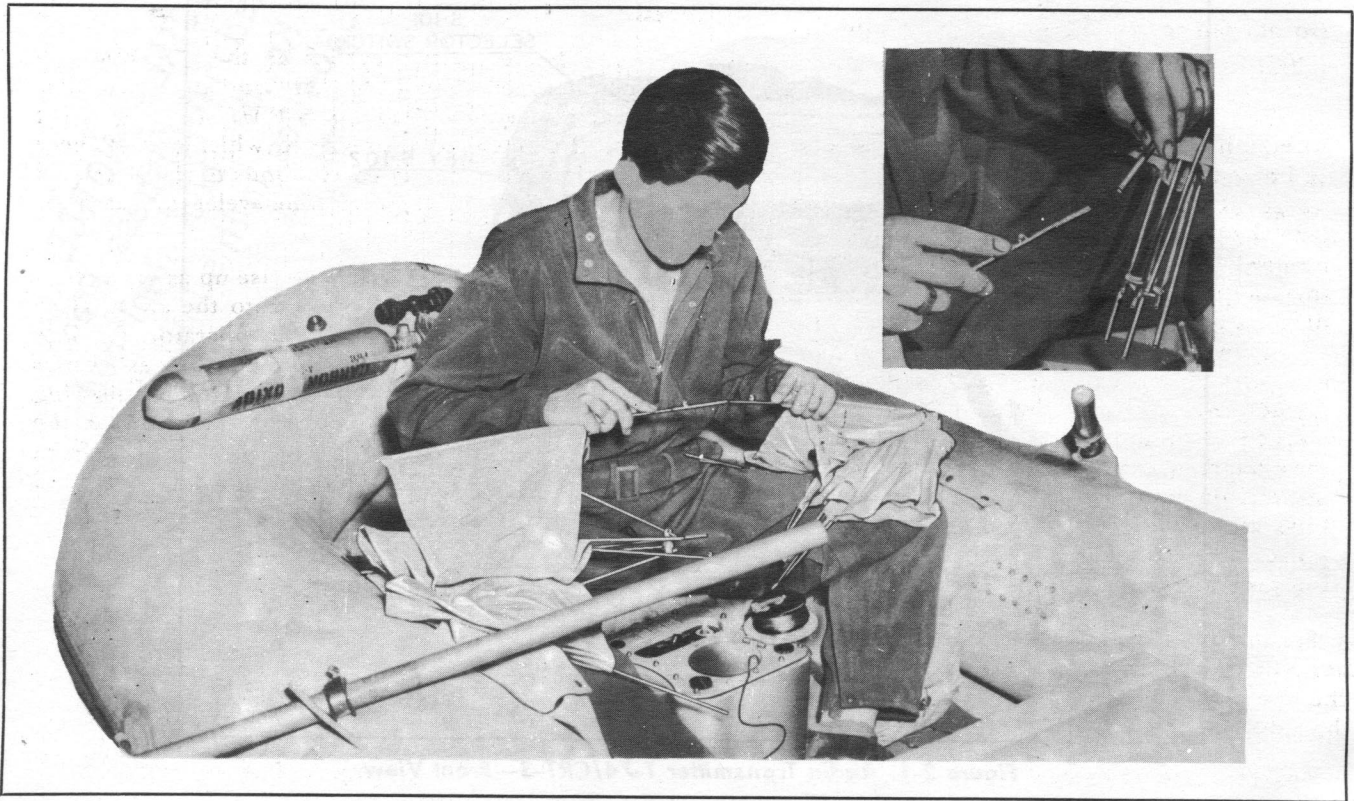

Figure 2-3. Kite M-357-A—Assembly, Step 1
(a) Put together the two halves into which the kite is divided by fitting the ends of the four longerons on one half into their respective sockets on the other half. (See fig. 2-3.) Start by fitting together the longerons which are fastened together by a short length of cord, and then fit together the other corresponding longerons one by one around the kite. Be sure that each pair of longerons is pressed tightly together so that the two halves are held firmly in position.
(8) Screw the inflating tube into the top of the generator. (See fig. 2-3.)
(9) Wet the tip of the inflating tube and the balloon neck so the two will slide together more easily.
(10) Hold the neck of the balloon. Force the tip of the inflating tube into the neck of the balloon as far as it will go, that is, until the handle touches the bottom of the balloon neck. Twist the inflating tube back and forth slightly while pushing on it, to make it go into the balloon valve more easily. Do not twist more than one-half turn in either direction, or the valve may become blocked.